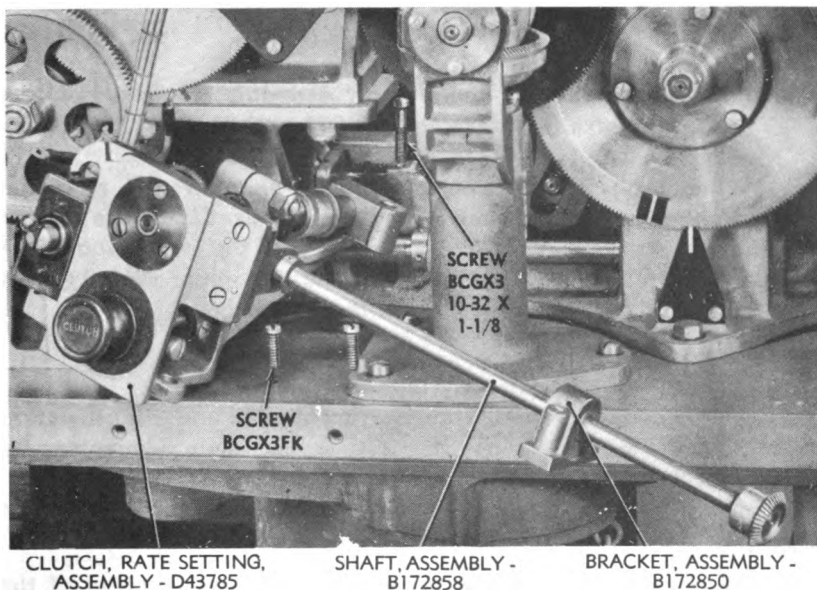

Figure 134 — Removing Rate Setting Clutch From Director
a. With the clutch knob in, the handwheel should be turned to the left until the stop nut is all the way from the operator. This is not necessary if the transmitter assembly has been removed. Loosen the small bracket B172850 which holds the horizontal shaft assembly B172858 (fig. 134) to the drive shaft assembly in the corner of the director, and slide the bracket toward the clutch. Remove the two screws which fasten the clutch to the base, and one screw in the multiplier casting.